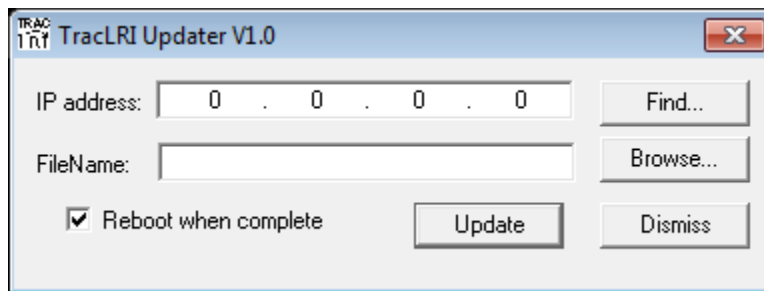

Figure 6. TracLRI Updater Window
9. Exit out of the networking windows, and open the TracLRI Updater program. **Fig. 6**